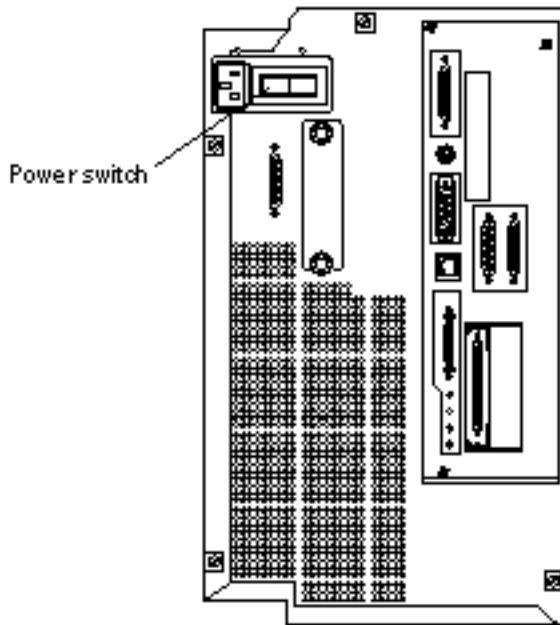

Figure B-3 Powering On the Netra NFS Server
**7. Turn the power switch at the rear of the Netra 150 server to the ON (|) position (Figure B-3).**